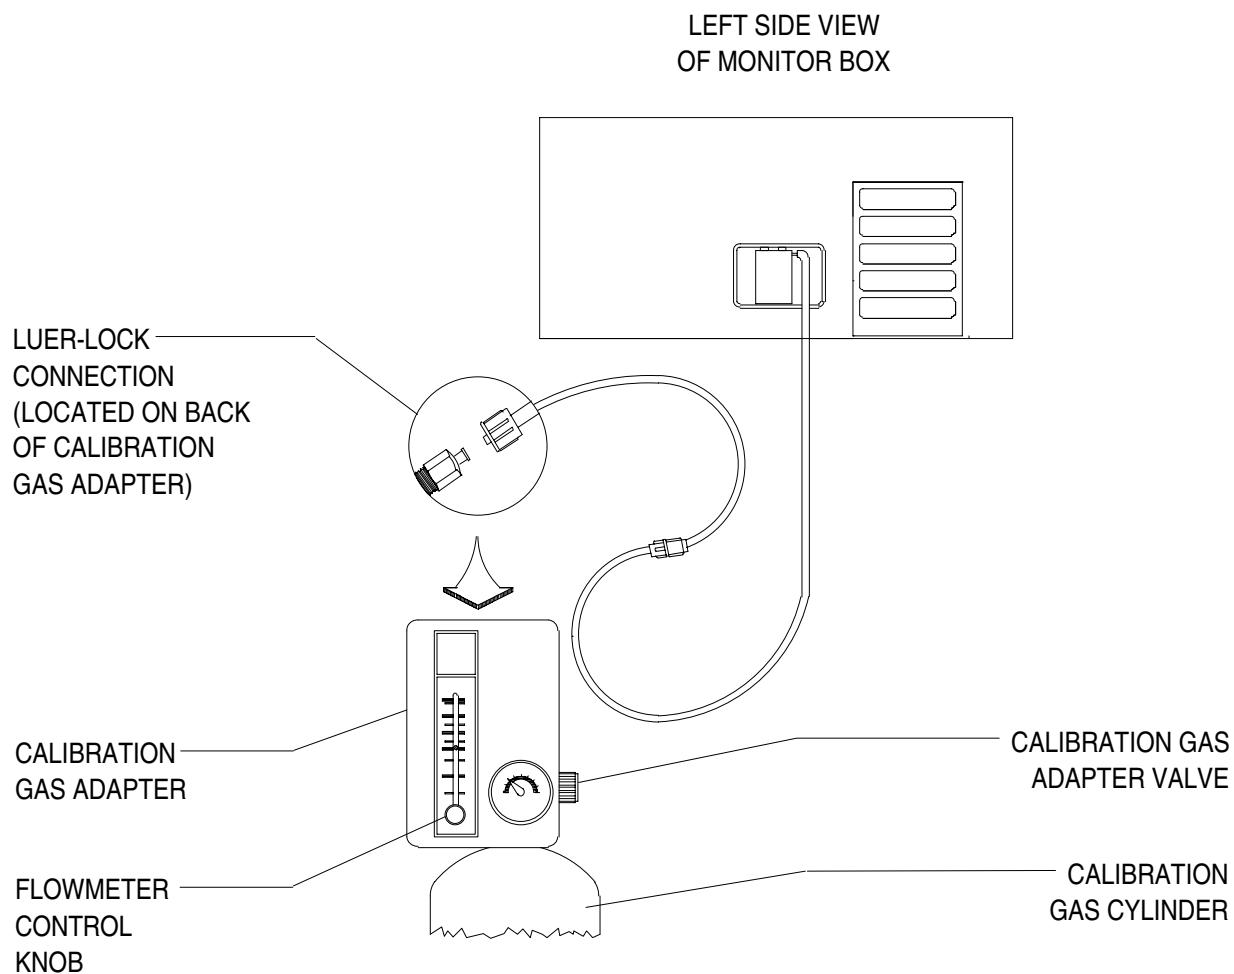

Figure 5-14: MULTISPEC CALIBRATION CONNECTIONS
- 5.13.4.1 Mount the calibration gas adapter (NAD P/N 4110716) on the calibration gas cylinder, (NAD Part No. 4110599 or 4110599-001). See Figure 5-14.